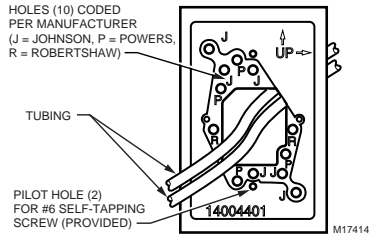

Fig. 4. Adapter Plate Installation.
1. Feed tubes through large adapter plate hole (see Fig. 4).
- NOTE:** If any wall screw holes coincide with noncoded adapter plate holes (see Fig. 4), proceed as follows. (If not, continue with Step 4.):
4. To remove thermostat cover, drive screws clockwise until cover is free. To remove thermostat from backplate, spread retaining clips (Fig. 4) and separate.